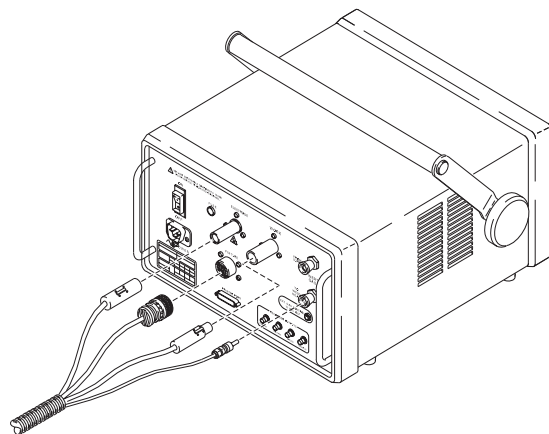

Figure 3 Motor Module Connectors
1. To connect the motor module to the power supply, connect the four connectors to the rear panel of the power supply by performing the following steps. See Figure 3.